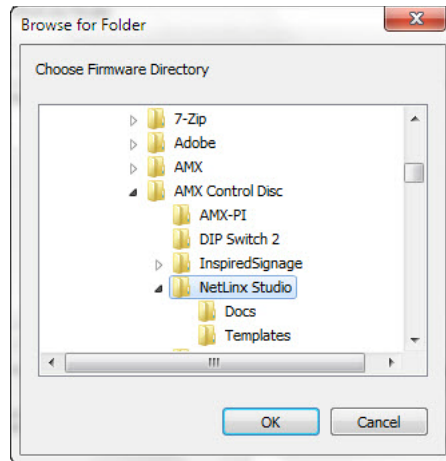

FIG. 32 Browse for Folder window
4. Select the appropriate Kit file from within the *Browse for Folder* window (FIG. 32).